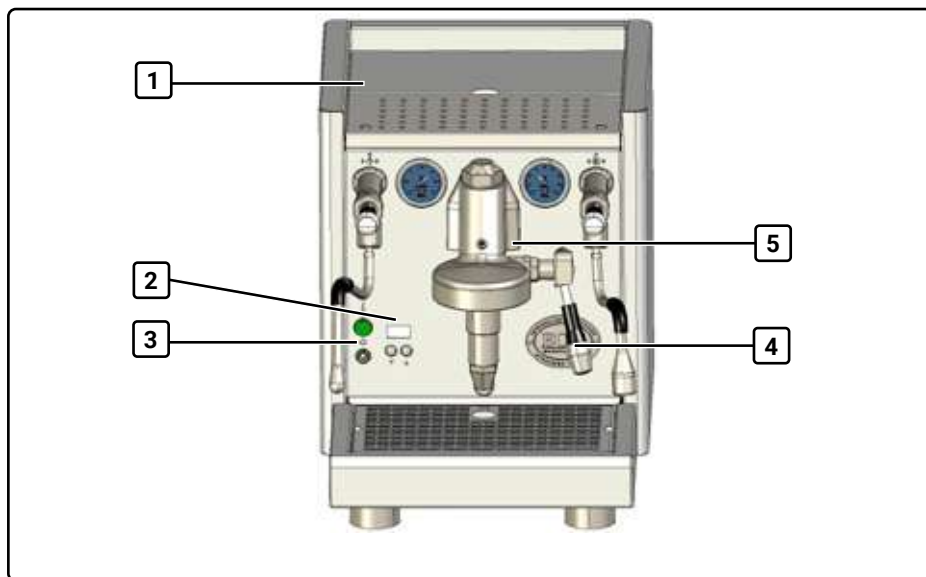

Fig. 8 Front view
1. Open the water tank flap (1, Fig. 8) and remove the water tank and clean it thoroughly (see Chapter 11.5, "Cleaning the water tank").
4. Switch on the machine using the on/off toggle switch (3, Fig. 8) einschalten.
1. Place a receptacle under the brew group (5, Fig. 8). The opening of the receptacle should be at least as big as the brew group.
2. Move the brew lever (4, Fig. 8) into the drawing position (see Chapter 5.2.3, "Operating levers").
2. Switch on the machine using the on/off toggle switch (3, Fig. 8).